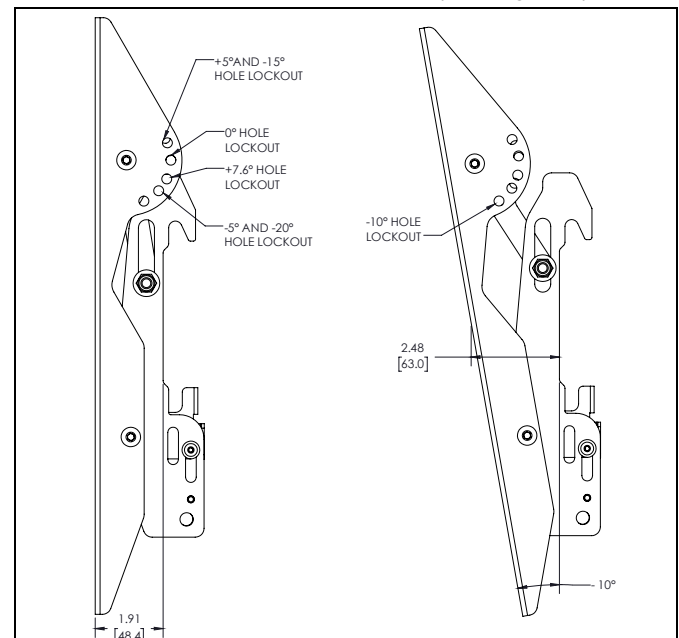
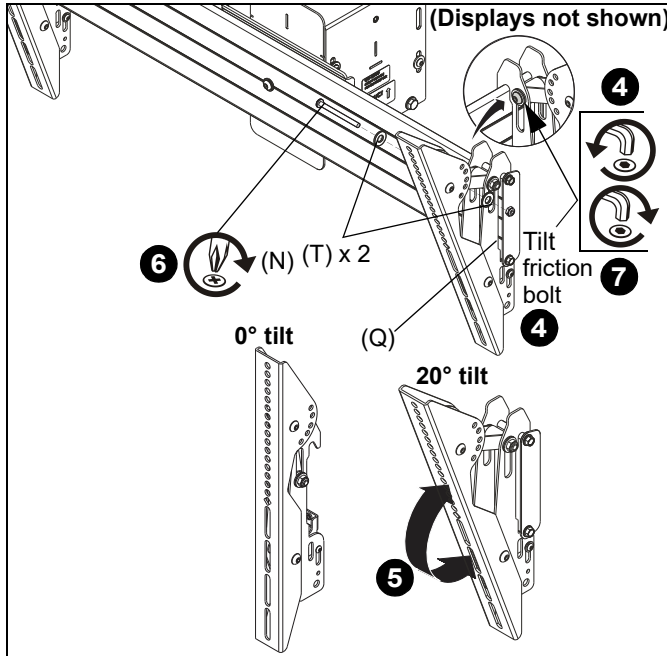

Figure 9
Figure 10
The interface brackets allow -7.6° to 20° tilt, and can be locked at -7.6°, -5°, 0°, 5°, 10°, 15° and 20° tilt. (See Figure 9)
4. If necessary, loosen button head tilt friction bolt (located on side of interface bracket). (See Figure 10)
5. Adjust tilt as required. (See Figure 10)
6. The tilt may be locked at -7.6°, -5°, 0°, 5°, 10°, 15° and 20° using one 1/4-20 x 2" Phillips head screw (N), one 1/4-20 lock nut (Q) and two 1/4" washers (T) per interface bracket. (See Figure 9) and (See Figure 10)